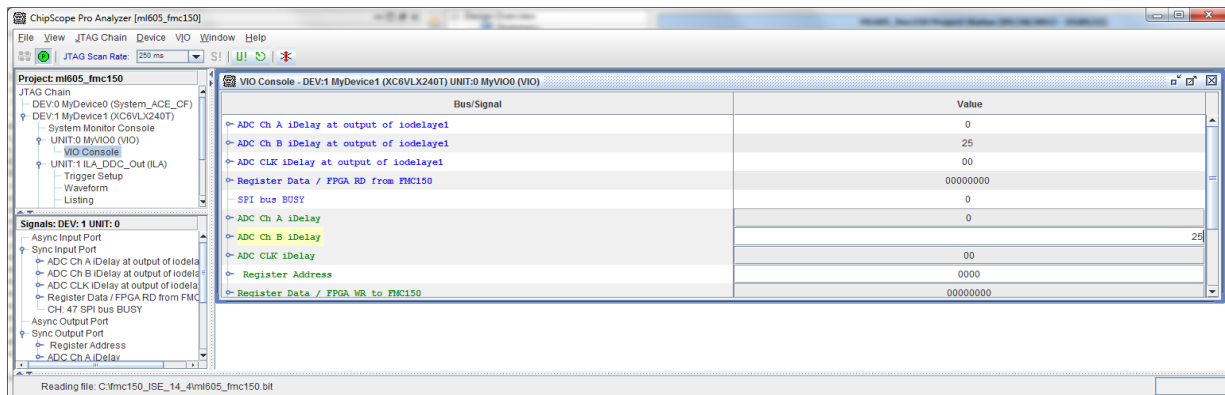

Figure 12 – VIO Console within ChipScope Pro window.
8. Select UNIT: 0 from the left-most pane and double click *VIO Console* (As shown in Figure 12).